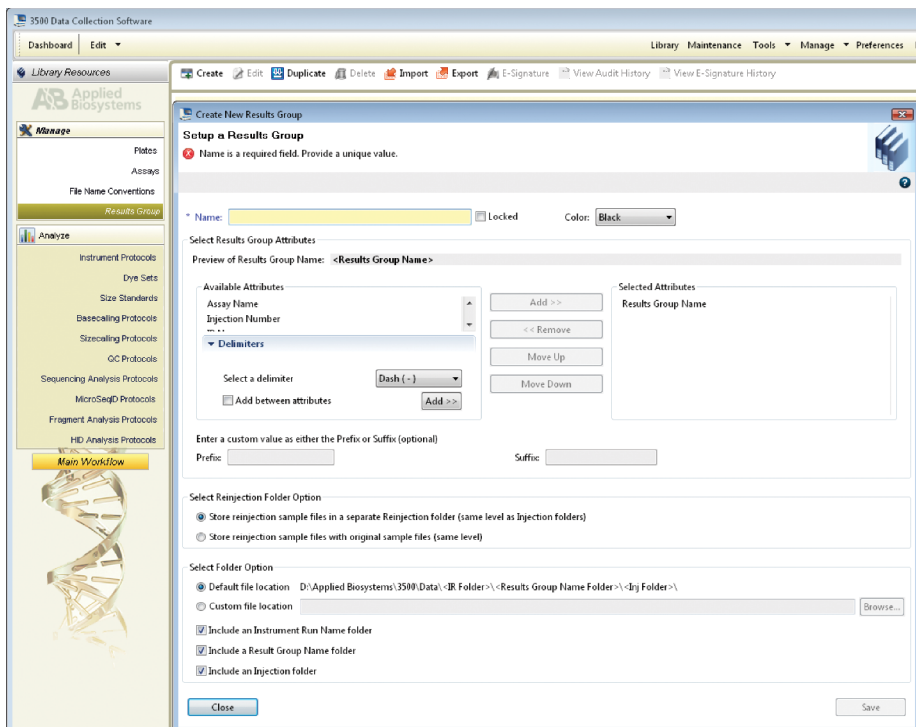

Figure 7. The 'Create New Results Group' window.
- To create a new Results Group (Figure 7), navigate to the Library. Select **Results Group**, then select **Create**. Alternatively, a previously created Results Groups may be used. Select the Results Group Attributes according to laboratory practices. Save with a descriptive name.